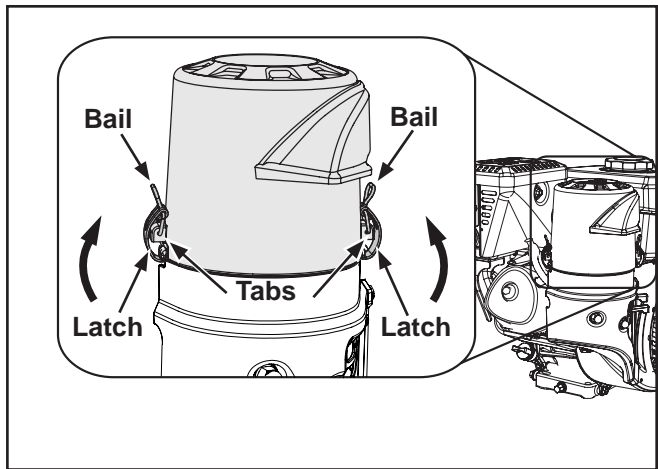

Figure 24. Air Cleaner Cover Installation.
- Reinstall and secure the air cleaner cover. Align the air cleaner cover latches with the tabs on the base. Place the latches under the tabs and lift up on the bails. See Figure 24.